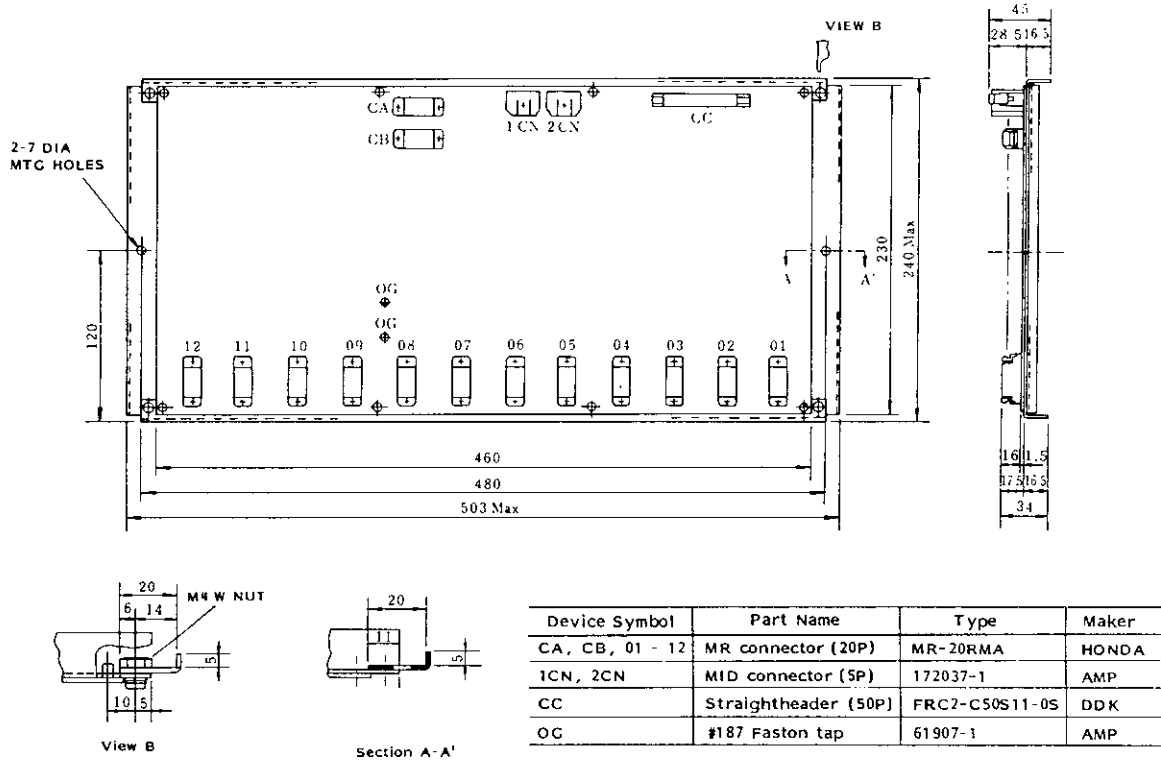

Fig. 13.1
(1) Fig. 13.1 shows dimensions of I/O modules